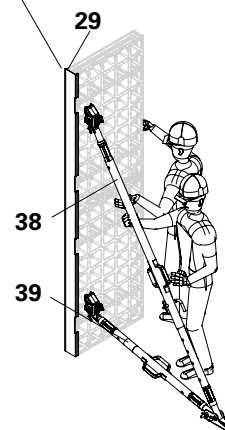

Fig. C1.04
4. Mount the push-pull prop (**38**) and the kicker brace (**39**) on the pre-assembled DUO brace connectors (**27**). Mount the push-pull prop and kicker brace on the base plate and fix the base plate with anchor bolts. (Fig. C1.04)